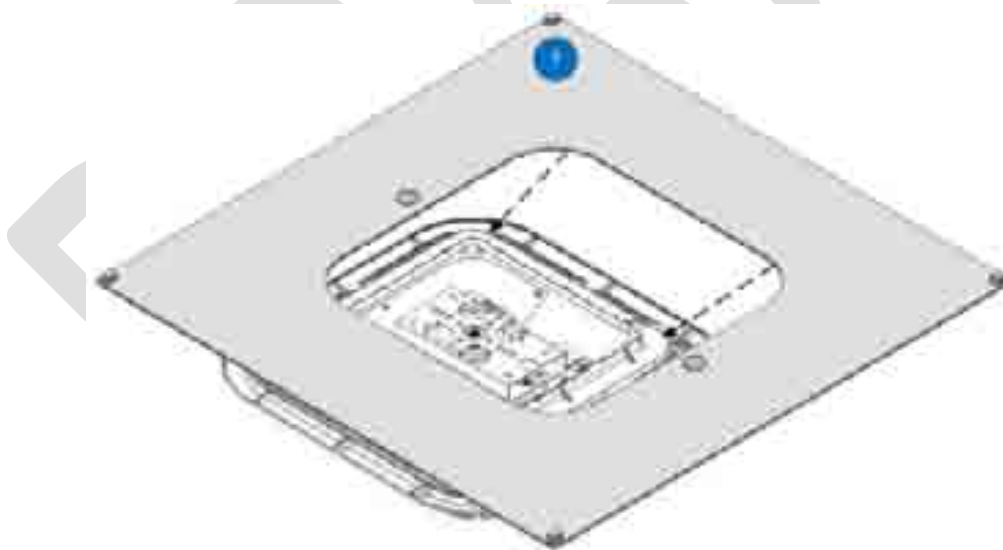

Figure 5-73. Lowering Plate onto RAU
2. Position the RAU on a flat surface with the mounting bracket facing upwards and lower the plate (Item 1) onto the RAU, as shown in Figure 5-73.